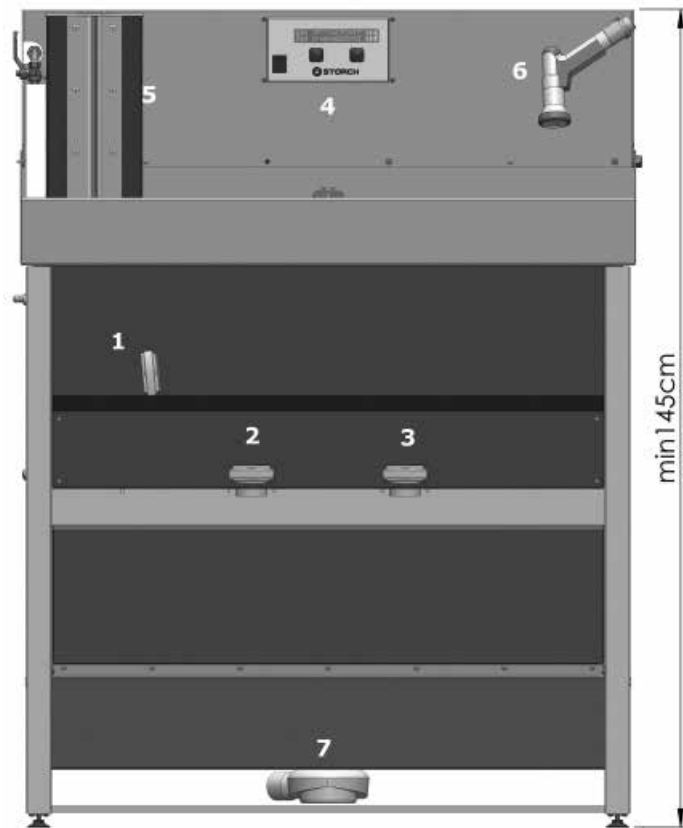

Fig. 1
After the device has been positioned, the supplied drain (7) Fig. 1, 2 is connected to the on-site drainpipe. Height of the on-site drain max. 100 mm
- Clean tools/containers with the supplied hand shower head (6) Fig. 1
- Clean rollers in the TurboWash (optional TurboWash = accessory) (5) Fig. 1, 2, 5, 6
- Switch on the system at the on/off switch of the control (4) Fig. 1
This can occur if the water level in the reaction tank is too low. During the flocculation process, air is mixed in, which ensures that the flakes float. In this situation, do not open the fresh water outlet (1) Fig.1 after flocculation, but directly open the drain (2) Fig.1 or (3) Fig.1, depending on which one is displayed by the control.